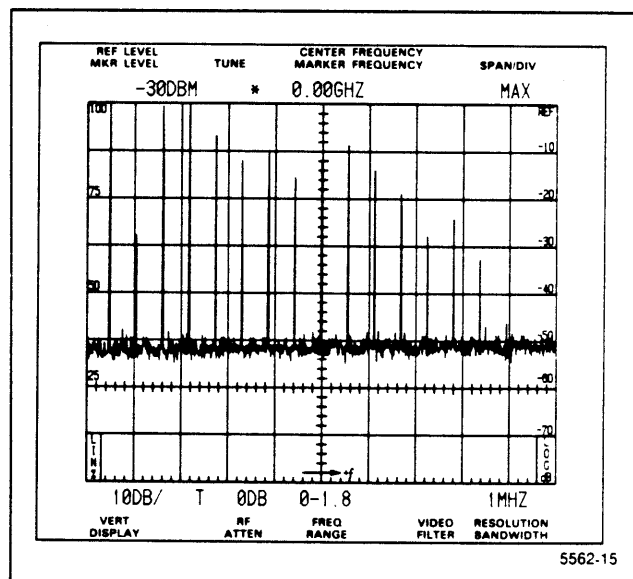

Figure 5-2. Typical display of calibration markers in the maximum span position.
e. A comb of 100 MHz markers will be displayed, as shown in Figure 5-2. To select 100 MHz center frequency, press the pushbutton sequence of <blue-SHIFT> FREQ 1 0 0 MHz.